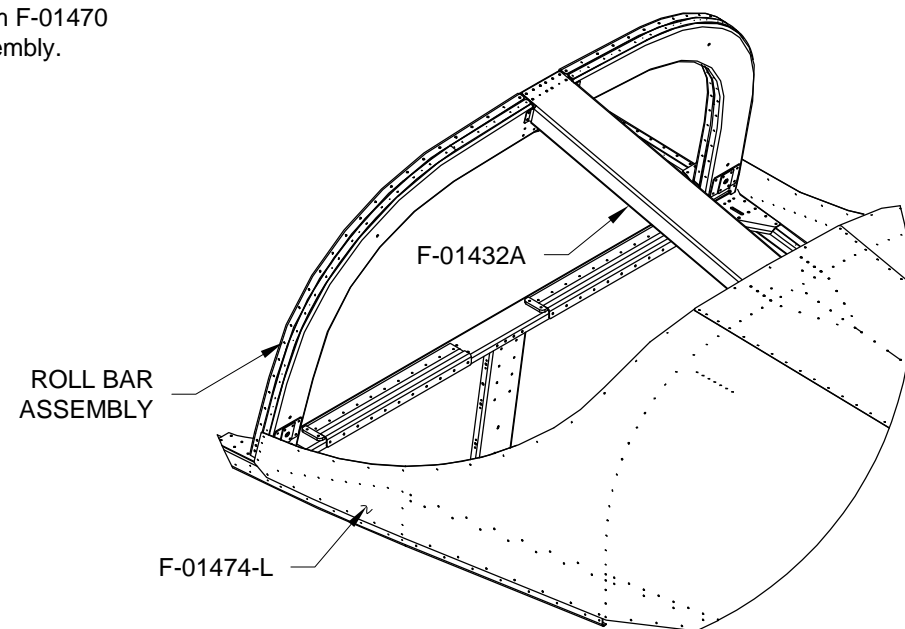

FIGURE 1: CLECO TO ROLL BAR BRACE
Step 3: Temporarily cleco the F-01432A Roll Bar Brace to the F-01406C Bulkhead and the top of the Roll Bar Assembly to establish final alignment. See Figure 1 and Page 37-07.